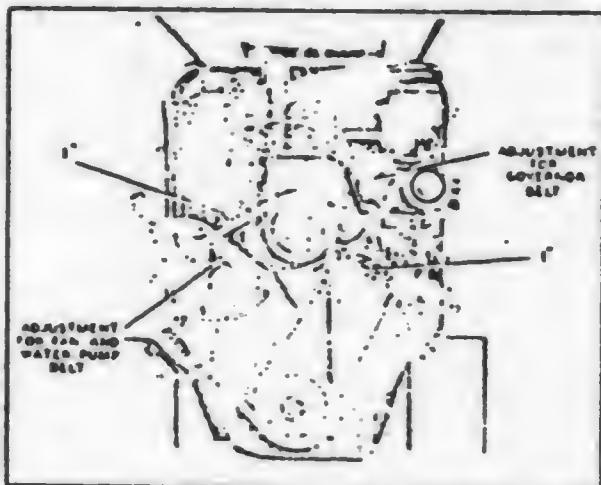

FIG. 18 FAN AND GOVERNOR BELT ADJUSTMENTS
(8) *Fan and Governor Belts.*—Inspect the fan and governor belts. If not in good condition, replace with new ones. Adjust the belt tension so that the top side of the belt can be depressed about  $1\frac{1}{4}$ " to  $1\frac{1}{2}$ ". The fan belt is adjusted by loosening the clamp bolt in the slotted bracket at the idle pulley, moving the idle pulley to obtain proper tension, then tightening the bolt. Slotted holes in the governor bracket permit adjusting the governor belt in a similar manner. See Fig. 18.